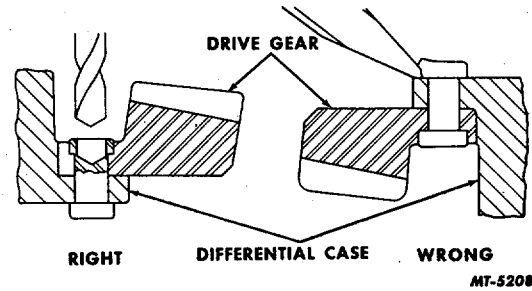

Fig. 15 Drive Gear Rivet Removal
4. To remove drive gear rivets, carefully center punch each rivet head. Next use a drill .8 mm (1/32") smaller than body of the rivet and drill through rivet head, Fig. 15. Use a